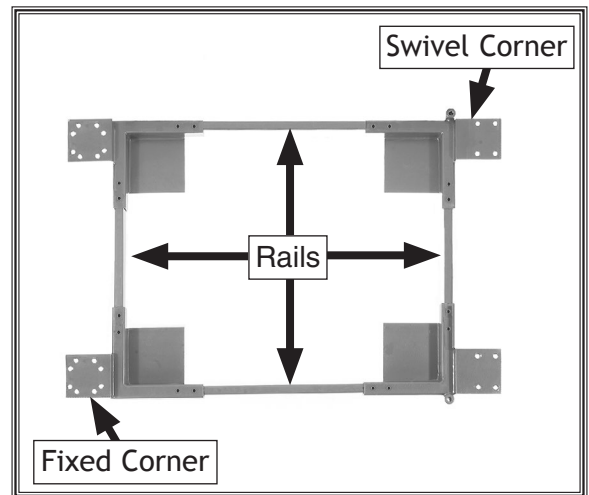

Figure 13. Side rails inserted into corner brackets (casters removed for clarity).
- Slide each side rail inside a corner bracket, as shown in Figure 13.